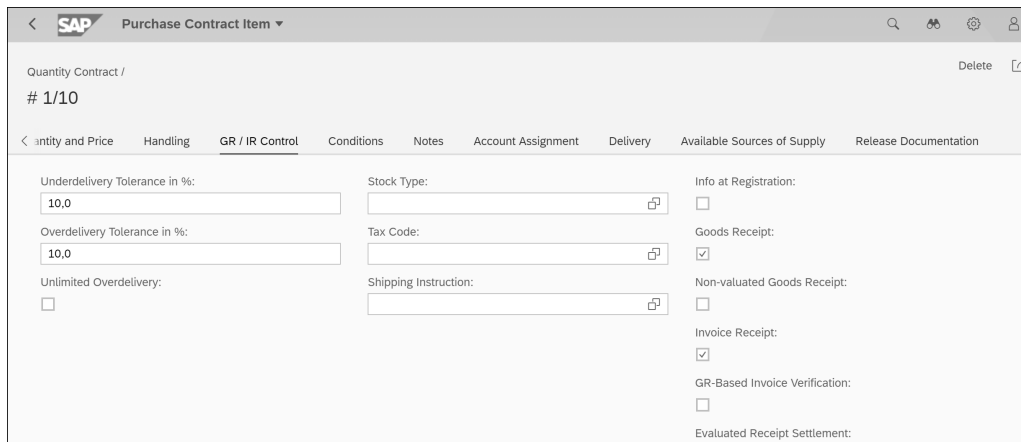

Figure 8.6 Create Contract Item: GR/IR Control
8. Go to the **GR/IR Control** tab and enter tolerance limits and stock type as applicable. Flags to indicate the requirement of GR, IR, GR-based invoice verification, and more can be added, as shown in Figure 8.6.